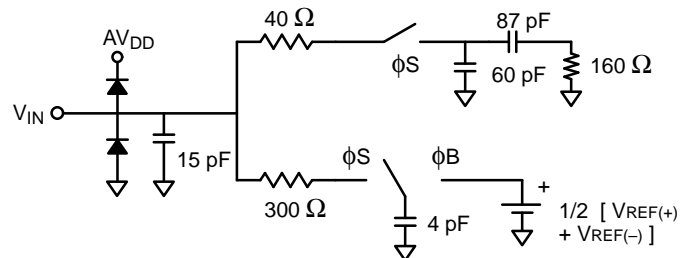

Figure 9. Analog Input Equivalent Circuit
- See V_{IN} input equivalent circuit (see Figure 9.).
The MP8796's performance is optimized by using analog input circuitry that is capable of driving the A_{IN} input. Figure 9. shows the equivalent circuit for A_{IN} .